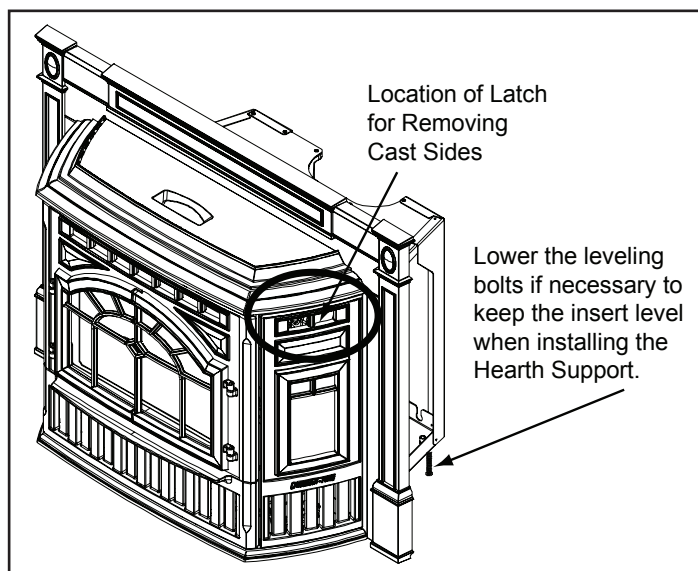

Figure 21.4 - Shown with Cast Panel Set
1. There is a latch on the back side of the cast side in the middle of the top opening of the cast side as indicated in **Figure 21.4.**
8. Remove both left and right cast sides from insert. **See Figure 21.4 page 21.**
3. Remove the 2 cast sides and slide the assembled trim over the assembled surround set. **See Figure 21.4 on page 21.**